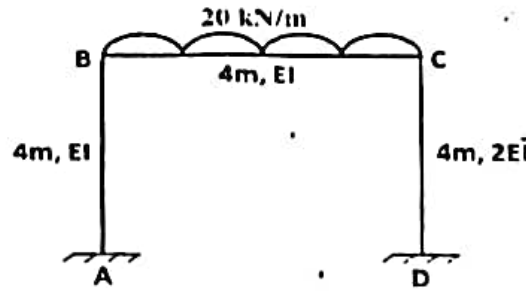

Fig. 7
Please analyze the frame shown in Fig. 7 using moment distribution method. Draw shear force and bending moment diagrams. Also sketch the deflected shape. (7)